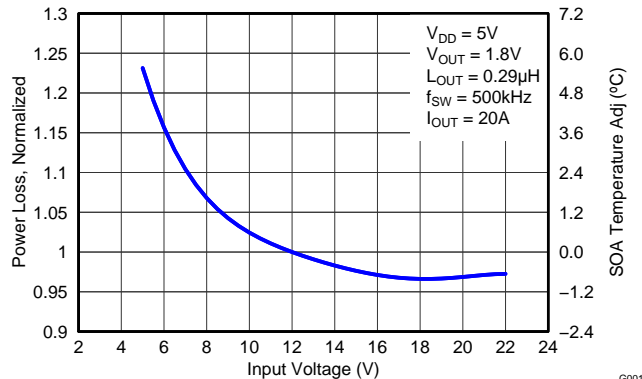

Figure 9. Normalized Power Loss vs Input Voltage
- Normalized Power Loss for input voltage  $\approx$  1.10 (Figure 9)
- SOA adjustment for input voltage  $\approx$  2.5°C (Figure 9)